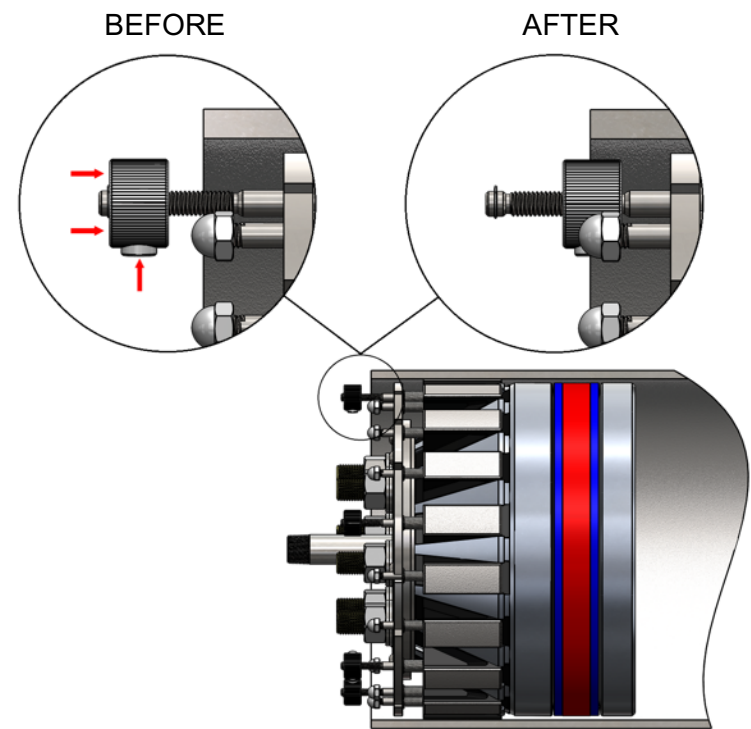

Figure 18: Repositioning Speed Nut
10.3 Before loosening the **Compression Hex Nuts(19)**, all **Speed Nut(1)** must first be positioned all the way to the end of the stud’s thread as shown in Figure 18 – AFTER.
10.4 Turn the **Speed Nut(1)** clockwise until it reaches the end of the thread, away from the retainer ring. For faster repositioning, press the button of the **Speed Nut(1)** and slide it toward the end of the thread, away from the retainer ring, see Figure 18 – BEFORE. Once it is at the end of the thread, make sure that threads are interlocked by turning the **Speed Nut(1)** clockwise until it is finger tight.
- All **Speed Nut(1)** must be in the “AFTER” position shown in Figure 18 before loosening the **Compression Hex Nuts(19)**.